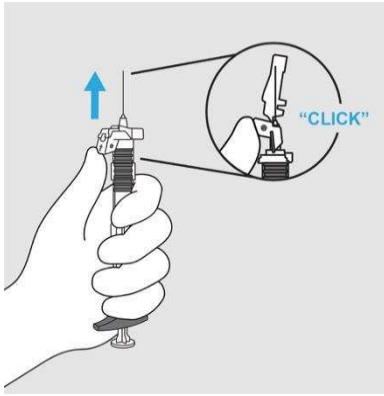

Figure 15: Activate safety device
5. When the injection is complete, withdraw the needle from the patient. Immediately activate the safety device by pressing upward from just below the arrow until a “CLICK” is heard or felt and the needle is fully covered. (Figure 15)